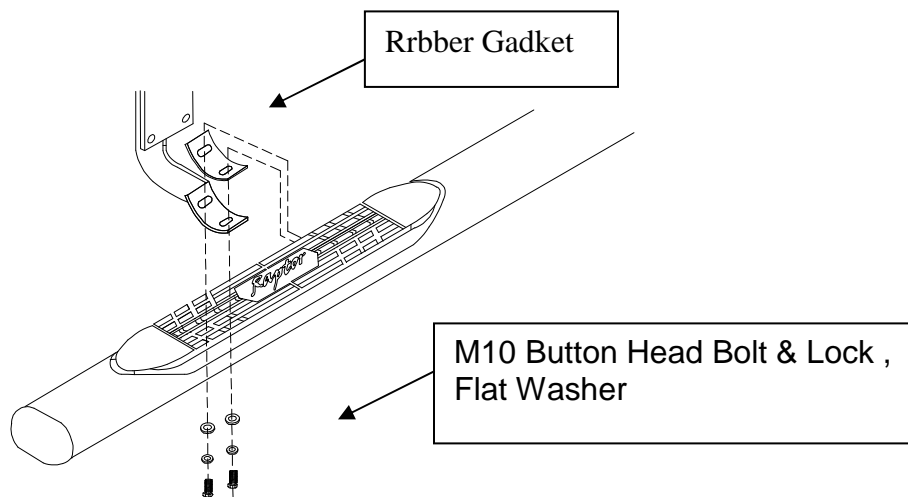

Figure 3. Installation View of Bracket & Bar
7. Assemble with M10 button head bolts and M10 washers. 2 bolts per bracket, 4 bolts per bar (see Fig 3). Hand tighten.